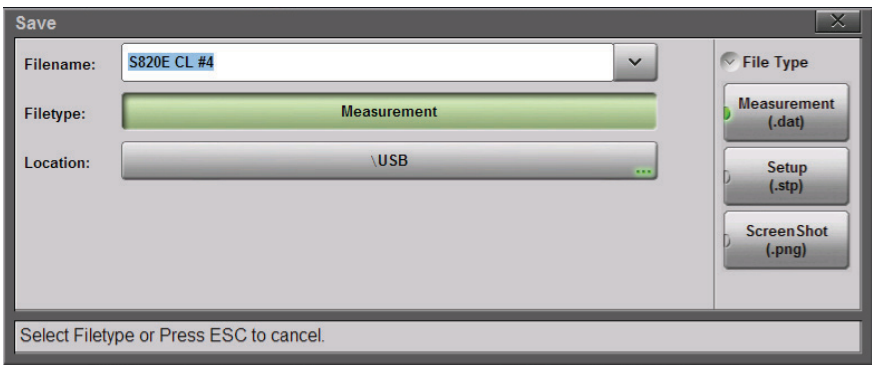

Figure 10-5. Set the File Type
In the Save dialog box (**File (7) > Save**), press **Filetype**, then select **Measurement**, **Setup**, or **ScreenShot** (Figure 10-5). The default file type is **Measurement**.
Note	A Filetype extension (Figure 10-5) is automatically added to the Filename based on the chosen Filetype.